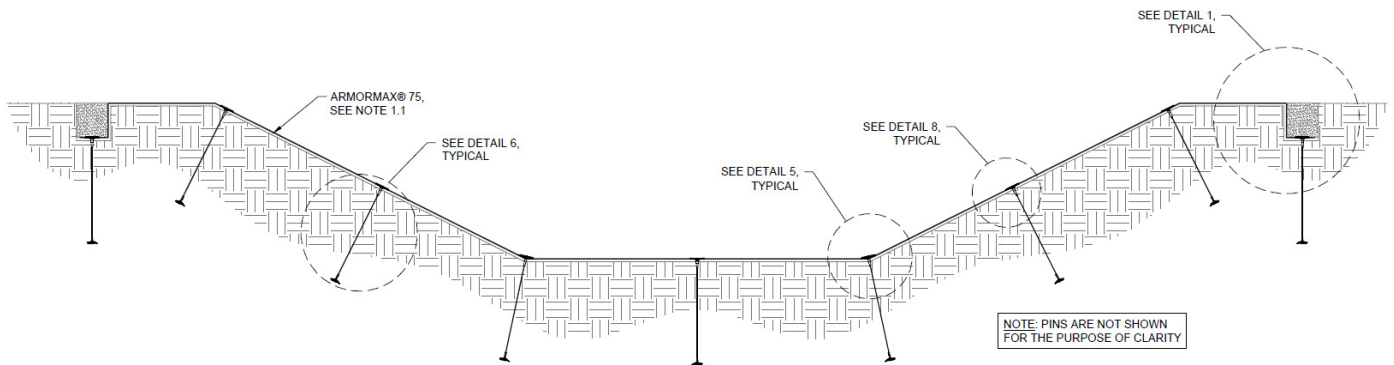

Figure 19: Completed Channel Elevation View
13. Continue to work down the length of the channel by repeating steps 6 through 9 overlapping each adjacent HPTRM panel a minimum of 3 in (75 mm) and a maximum of 6 in (150 mm) (Figure 19). The last HPTRM panel should terminate on the Terminal Channel (TC) trench with pins on 12 in (300 mm) centers in between anchors on 5 ft (1.5 m) centers.
16. Backfill and compact the TC trench (Figure 19).
18. At a minimum, HPTRM panels should be pinned entirely across the channel surface, pins and earth anchors should be installed in the trenches, and the trenches should be backfilled and compacted at the end of each day to minimize rework in the case of a major rain event. Specific project conditions may warrant further evaluation of installation order for ease. An example elevation view (Figure 19) of a channel armored with **PROPEX** Armormax can be seen below for overall reference. Consult Solmax Engineering Services at (423) 553-2450 with any questions that you may have.